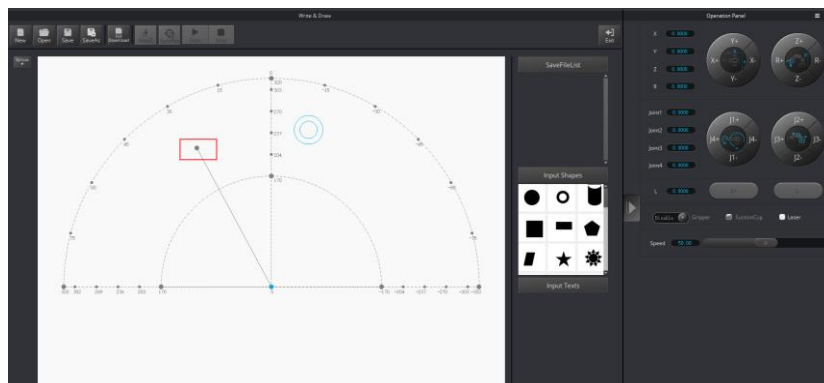

Figure 5.82 The point corresponding to the end-effector of the robotic arm
- The point marked by a red box, as shown in Figure 5.82, corresponds to the position of the end-effector of the Dobot Magician. This point changes its position only within the annular area when the robotic arm moves.